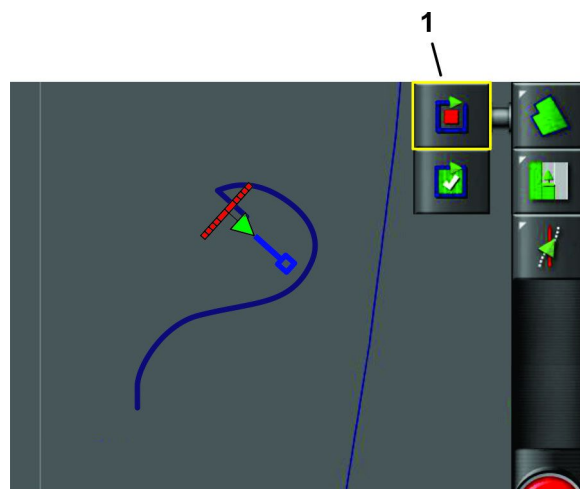

Figure 43
- Align the machine into position (Figure 43).
- Press the RECORD FIELD BOUNDARY icon to begin recording again, and continue driving the machine to define the boundary perimeter (Figure 43).